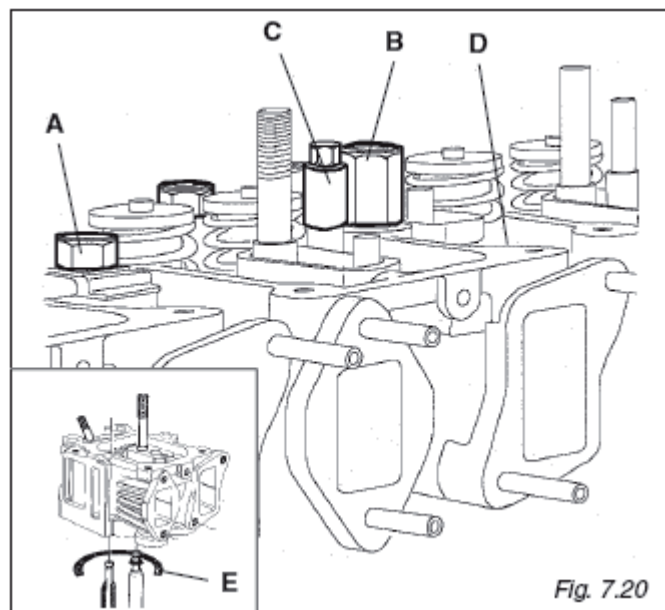

Fig. 7.20
7.21 PREASSEMBLY OF CYLINDER HEADS (FIG. 7.20)